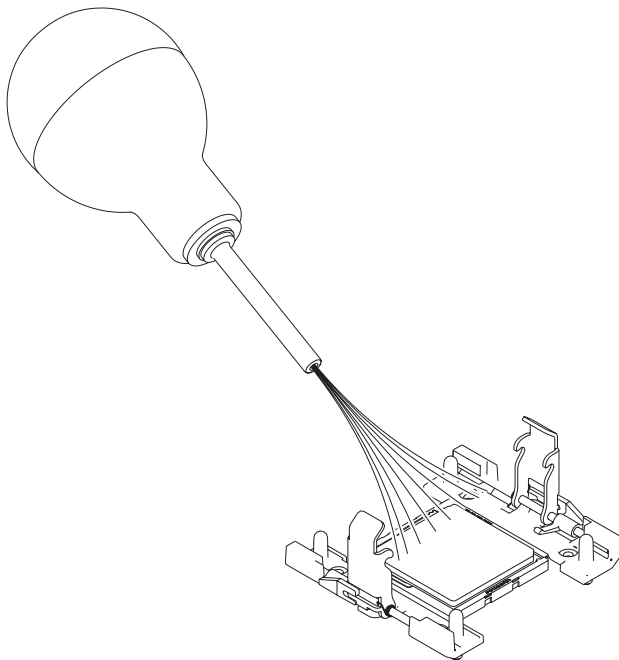

Figure 3. Dusting the processor area
11. Dust around the processor module by using an air bulb. You must wait for any dust to settle before moving to the next step. See Figure 3.